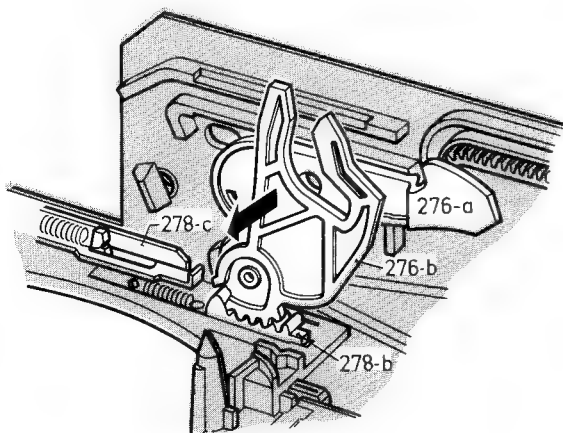

Fig. 1-23
- Demount lift pos. 201 (1.1).
- Demount top plate pos. 255 (1.13)
- Rotate threading-in ring anticlockwise until slide pos. 278 can be moved backwards, the lift drive lever of which is brought into vertical position, and pull out the lever toward the left (Fig. 1-23).